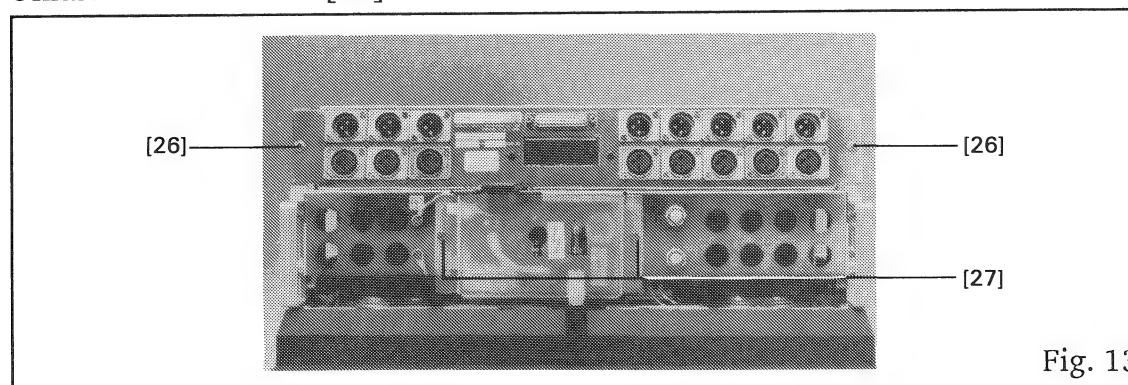

Fig. 13
- Unfasten the 2 screws [27] (Fig. 13) of the CONNECTION BOARD.